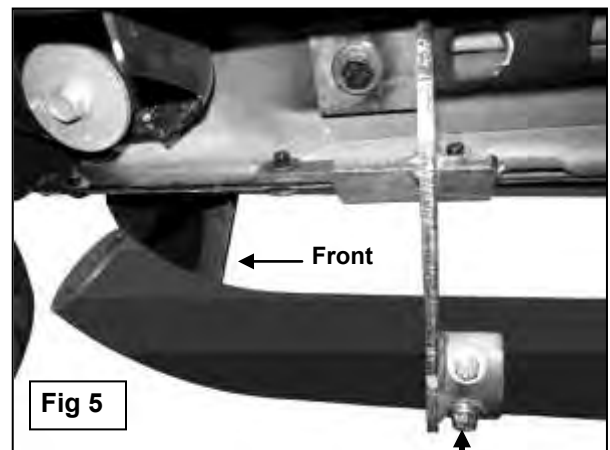

Fig 5
6. Once all three Mounting Brackets are securely in position, place the passenger Sidebar onto the Mounting Brackets and secure it with the included (6) 8mm x 25mm Hex Bolts, (6) 8mm Lock Washers and (6) 8mm Flat Washers, **(Figure 5)**. **NOTE:** Mounting cradles on Brackets should be inline and pointing toward the rear of the vehicle for proper installation. Snug all hardware but do not tighten at this time.